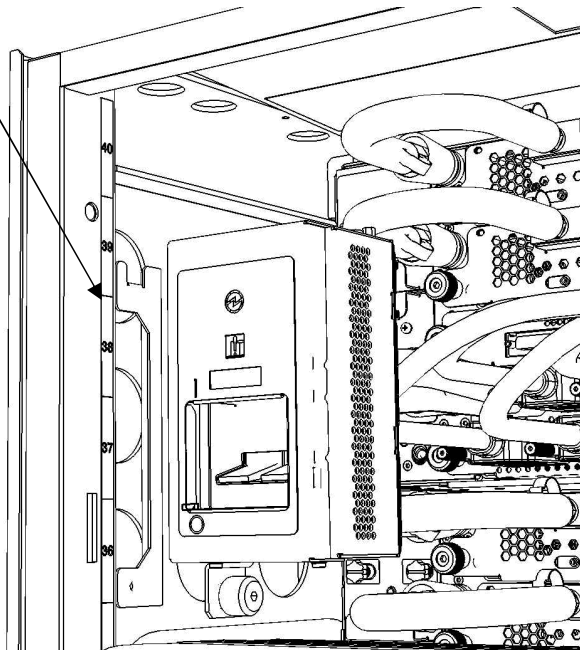

Figure 7 UEPO Service Position
- c. Reattach the UEPO Switch in the upper left corner of the rack in the service/shipping position. (see Figure 7).